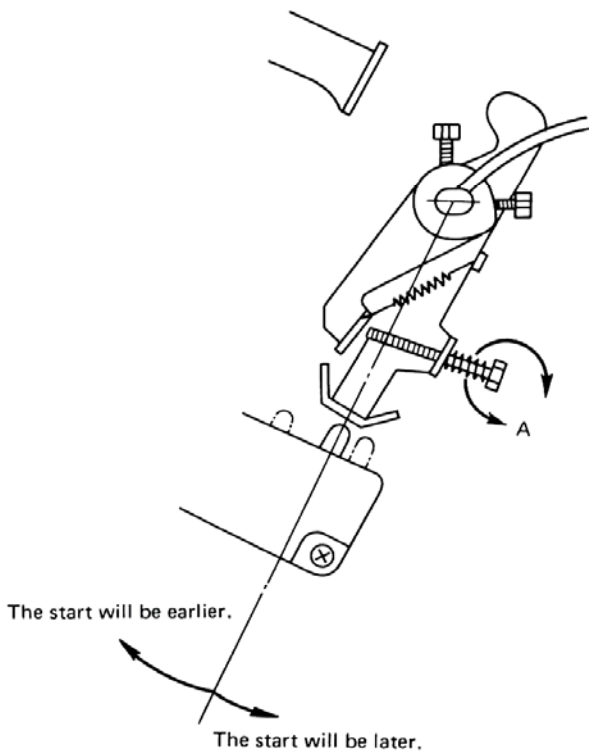

Fig. 14
- (1) Adjustment of start position
- o Make adjustment by positioning the feed arm so properly as to enable the pickup to start turning when the needle comes in the range of 155 ~ 185 mm from the center of the turntable. See in Fig. 14.
- (2) Adjustment of return position
- (3) Apply a screw locking agent to the return adjustment screw.